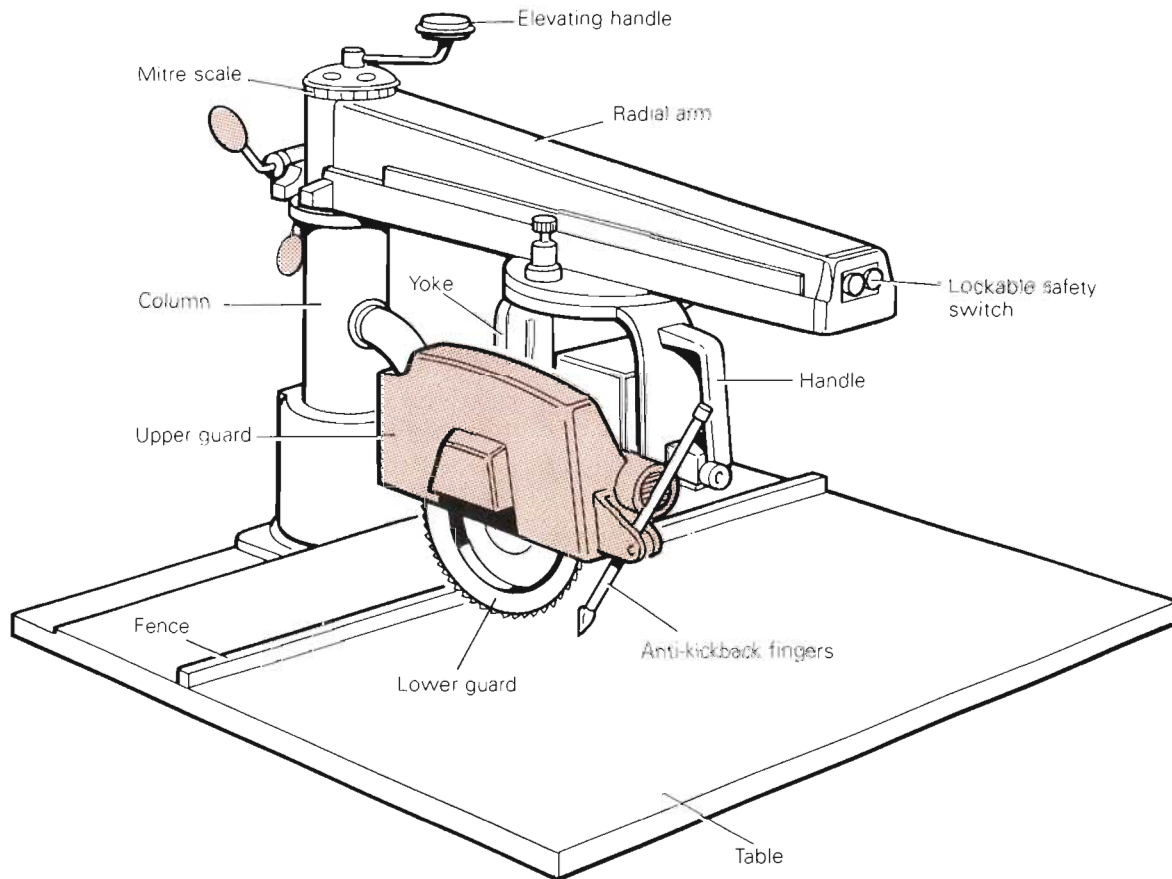

Figure 7.5 The radial arm saw.
- Always wear ear muffs and safety goggles (Figure 7.5).
The **radial arm saw** (Figure 7.5), originally was designed for crosscutting boards to length, but with improvements it has become a versatile machine in the woodwork shop. It can be used for other operations such as grooving, trenching, mitring, bevelling and tenoning. For special operations it can take other attachments such as: trench heads, moulding heads, shaper heads, router, rotary planes, drill chuck, saber saw, wood